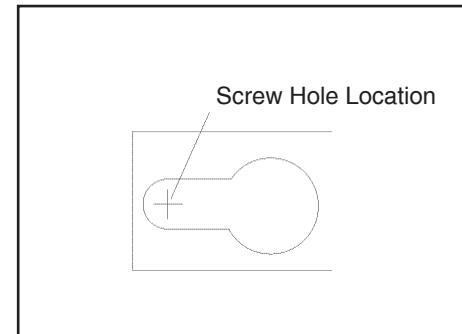
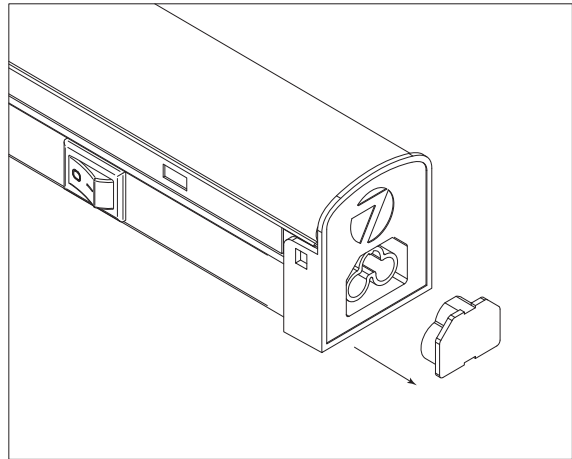

Figure 2
Figure 5
5. Position the Housing Assembly (1) against the mounting surface and with a pencil, mark the screw hole locations to be located at the narrow section of the keyholes. **See Fig. 2.**
6. Using a drill with a 1/16" drill bit, make two small pilot holes at the marked screw hole locations. If drill bit does not encounter a stud or wood surface, use toggle bolts or suitable fastener depending on structural conditions. If drill bit does encounter wood surface, use provided #10 wood screw (10).
7. Partially install the Mounting Screws. Position the Housing Assembly (1) against the mounting surface with the screw heads through the keyhole mounting holes. Slide the fixture until the screw heads are through the narrow section of the key holes. Finish tightening the screws to secure the fixture against the mounting surface.
5. Coloque la caja de la luminaria (1) contra la superficie de montaje y con un lápiz, marque las localizaciones de los agujeros para los tornillos que serán ubicados en la sección angosta de los "keyholes". **Vea Fig. 2**
6. Usando un taladro con una broca de 1/16", haga dos pequeños agujeros pilotos en las ubicaciones marcadas para agujeros de tornillos. Si la broca del taladro no se encuentra con un machón o madera, use perno de expansión u otro sujetador conveniente dependiendo de condiciones estructurales. Si la broca se encuentra con una superficie de madera, use tornillo de madera #10. (10)
5. Placer le boîtier de l'appareil (1) sur la surface de montage et à l'aide d'un crayon tracer l'emplacement des trous de vis sur la partie étroite des encoches en trou de serrure. **Voir la Fig. 2**
6. À l'aide d'une perceuse et d'un foret de 1/16 po, faire deux petits trous de guidage aux endroits indiqués pour les trous des vis. Si la perceuse ne rencontre pas un montant ou une surface en bois, utiliser des boulons à ailettes ou d'autres fixations, selon les conditions de la structure. Si la perceuse rencontre une surface en bois, utiliser une vis à bois calibre 10. (10)
10. Ramassez les câbles dans un groupe serré pour les mettre à l'écart et reconnectez les connecteurs de câbles (4). Réinstallez l'assemblage du couvercle DEL (2).
12. Once the first fixture is mounted, you can install the next fixture in the chain. On the end(s) of fixture to be connected- remove plug cover- **See Fig 5.**
3. Position the Housing Assembly (1) against the mounting surface and with a pencil, mark the screw hole locations to be located at the narrow section of the keyholes. **See Fig. 2.**
4. Using a drill with a 1/16" drill bit, make two small pilot holes at the marked screw hole locations. If drill bit does not encounter a stud or wood surface, use toggle bolts or suitable fastener depending on structural conditions. If drill bit does encounter wood surface, use provided #10 wood screw (10).
5. Partially install the Mounting Screws. Position the Housing Assembly (1) against the mounting surface with the screw heads through the keyhole mounting holes. Slide the fixture until the screw heads are through the narrow section of the key holes. Finish tightening the screws to secure the fixture against the mounting surface.
6. Bundle wires in tight grouping to be out of the way and reconnect Wire Connectors (4). Reinstall LED Cover Assembly (2).
8. Once the first fixture is mounted, you can install the next fixture in the chain. On the end(s) of fixture to be connected- remove plug cover- **See Fig 5.**
12. Una vez que el primer luminaria está montado, usted puede instalar el siguiente en el circuito. En los extremos del montaje que se conectará: quite la cubierta del enchufe, **Vea Fig 5.**
Vea Fig. 2.
6. Ate los cables en grupos ajustados para que estén fuera del camino y vuelva a enchufar los conectores de cable (4). Vuelva a instalar el montaje de cubierta del led (2).
12. Lorsque le premier appareil d'éclairage est monté, vous pouvez installer l'appareil suivant de la chaîne. Aux extrémités du luminaire à connecter - retirez le couvercle de la prise - **Voir Fig 5.**
8. Una vez que el primer luminaria está montado, usted puede instalar el siguiente en el circuito. En los extremos del montaje que se conectará: quite la cubierta del enchufe, **Vea Fig 5.**
8. Lorsque le premier appareil d'éclairage est monté, vous pouvez installer l'appareil suivant de la chaîne. Aux extrémités du luminaire à connecter - retirez le couvercle de la prise - Voir Fig 5.